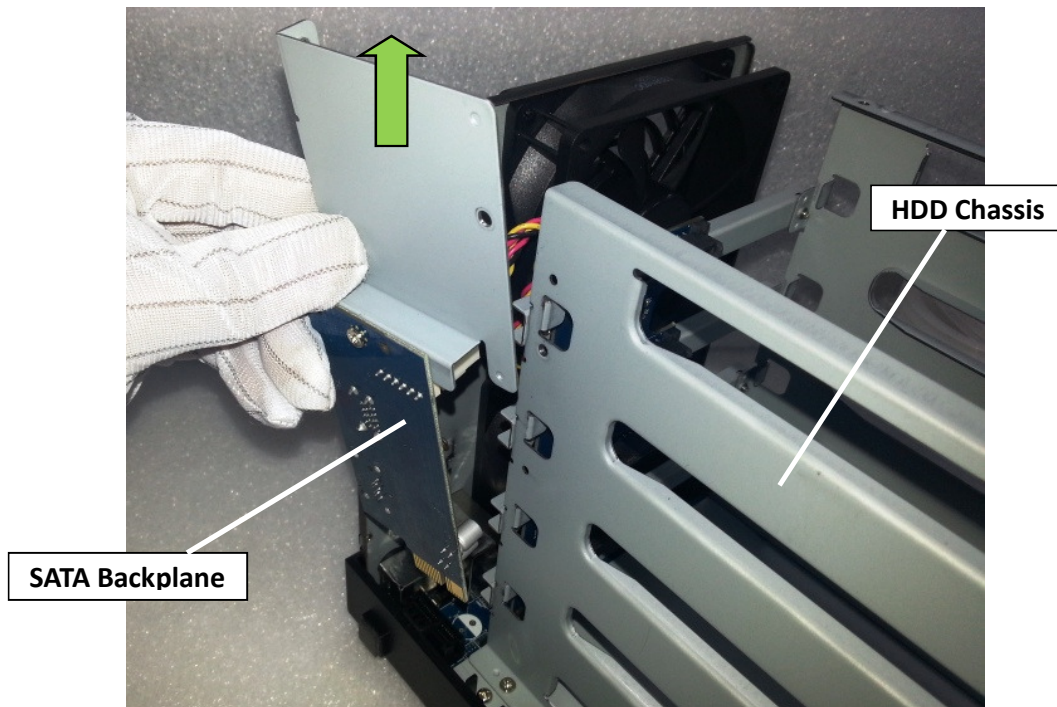

Fig. 15
2.1.9 Then remove the SATA backplane from the enclosure. (Fig. 15)